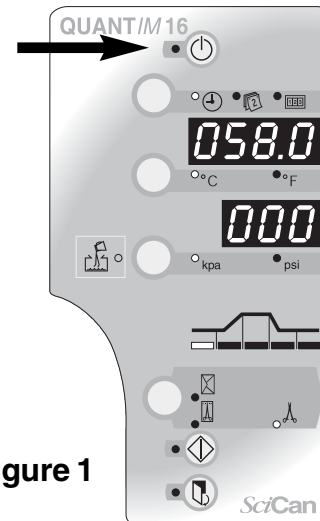

Figure 1
- Press the standby button in Figure 1.